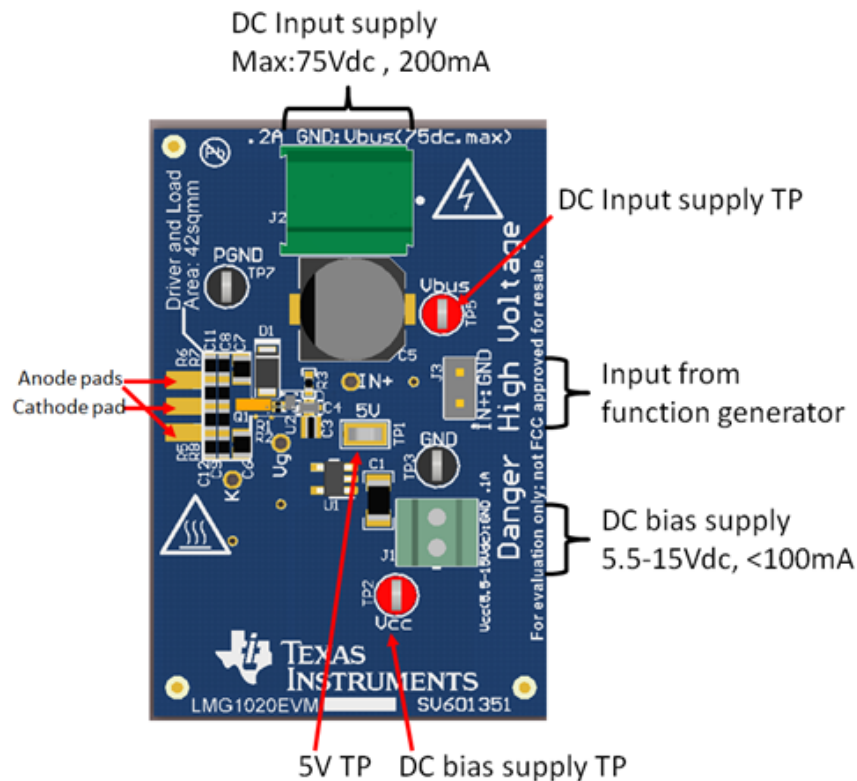

Figure 5. Recommended Connection Points and Feature Description
Connect the input and bias supplies as indicated in Figure 5.
1. Connect the input(J2) and bias supplies(J1) as shown in Figure 5, but do not power them on yet.
4. Power up the input supply(J2) (as shown in Figure 5) and set to the desired input voltage, but no higher than 75Vdc. Set the current limit to 0.2 A. It is recommended to begin measurements at lower voltage, such as 10 V to ensure the correct waveforms are being captured.